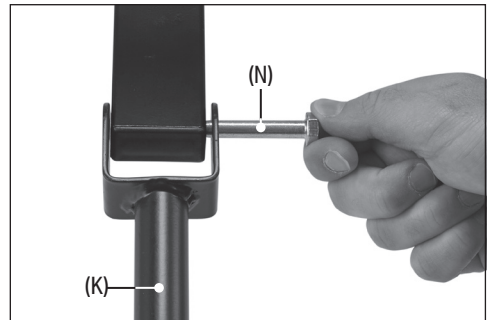

Fig. 20
4. Insert the end of the front arm between the brackets of the handle assembly (K) and attach using the M8 x 62mm partial-thread hex bolt (N), an M8 washer (S) and an M8 nylon-insert lock nut (W). (Fig. 20).